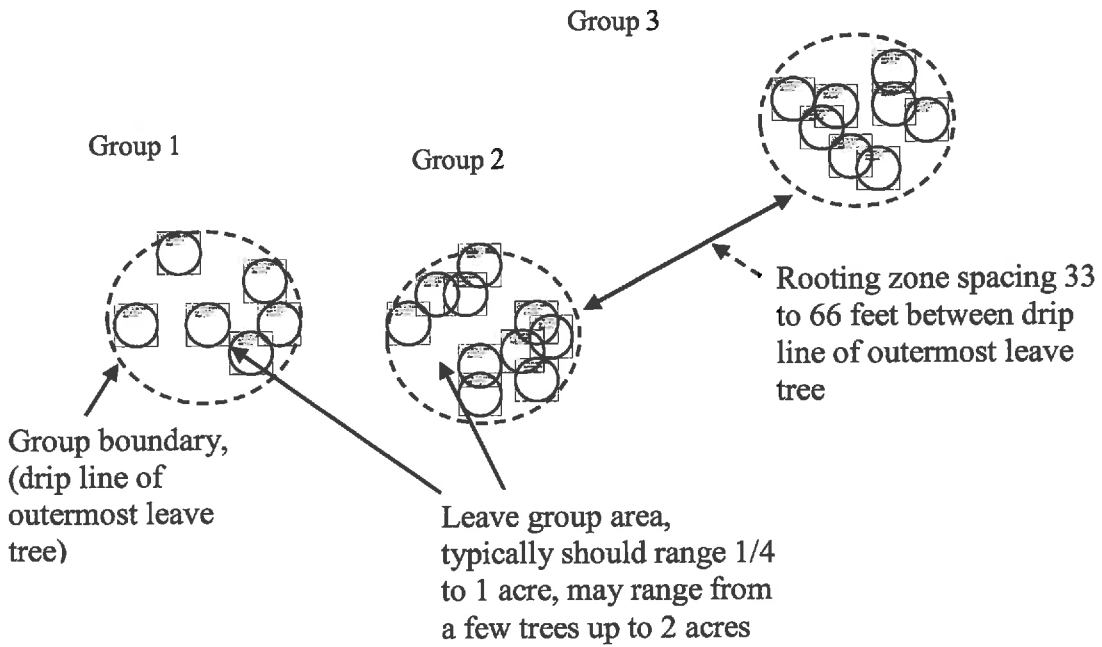

FIGURE 2: KEEN'S CLASSIFICATION OF TREES BASED ON AGE AND VIGOR
- d. Identify and develop tree groups of desirable and acceptable physical tree quality and canopy position (crown class) -Figure 2.